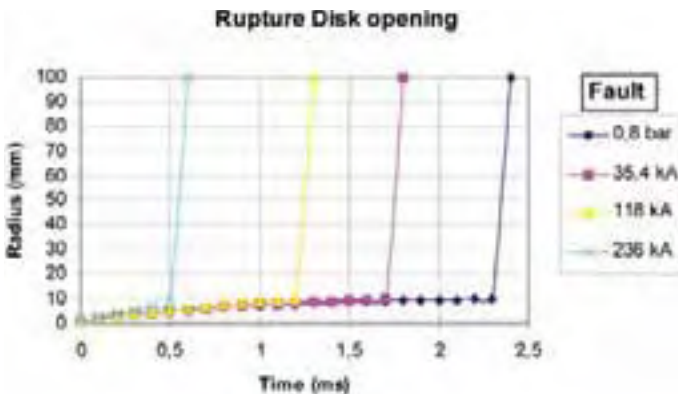

Figure 9: Rupture disk complete opening for different faults
The rupture disks complete opening time, versus diameters and fault levels are shown in Figure 9.
Also, if the Rupture Disk is submitted to a 0.8 bar pressure step, the opening time depicted in Figure 9 is of 2.4 ms.
- The rupture disk fast opening time, as the pressure gradient is a key parameter to the opening time, according to section 6, “Analysis of the DEPRESSURIZATION CHAMBER Rupture Disk efficiency” and Figure 9: Rupture disk complete opening for different faults;